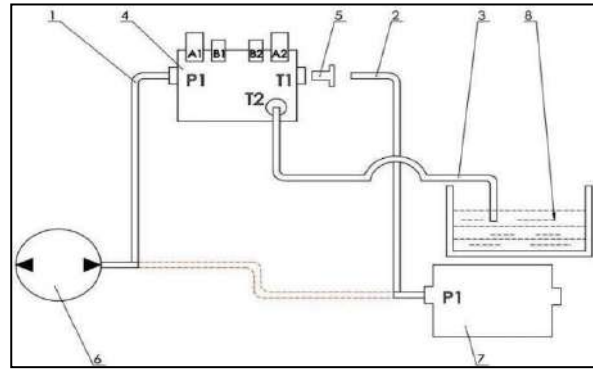

Fig. 5.1.1. General diagram of the Loader's hydraulic connectons
- Connect the loader valve block (4) to the hydraulic system of the tractor, as shown in the diagram below shown in figure 5.1.1.